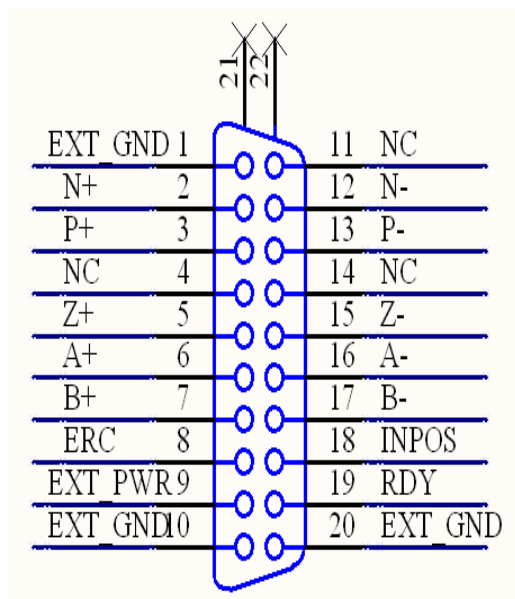

Fig 1-5 Pin definition for CN-XA, CN-YA, CN-ZA, CN-UA
■ CN-XA, CN-YA, CN-ZA, CN-UA (Fig1-5 connector for each AXIS)
The connectors CN-XA, CN-YA, CN-ZA, and CN-UA are 20-pin connectors that enable you to connect to the CNA connector of Mitsubishi motor drivers. Fig.1-5 shows the pin assignment for the 20-pin connector on the DN-8468MB, and the Table 1-6 shows its I/O connector signal description.